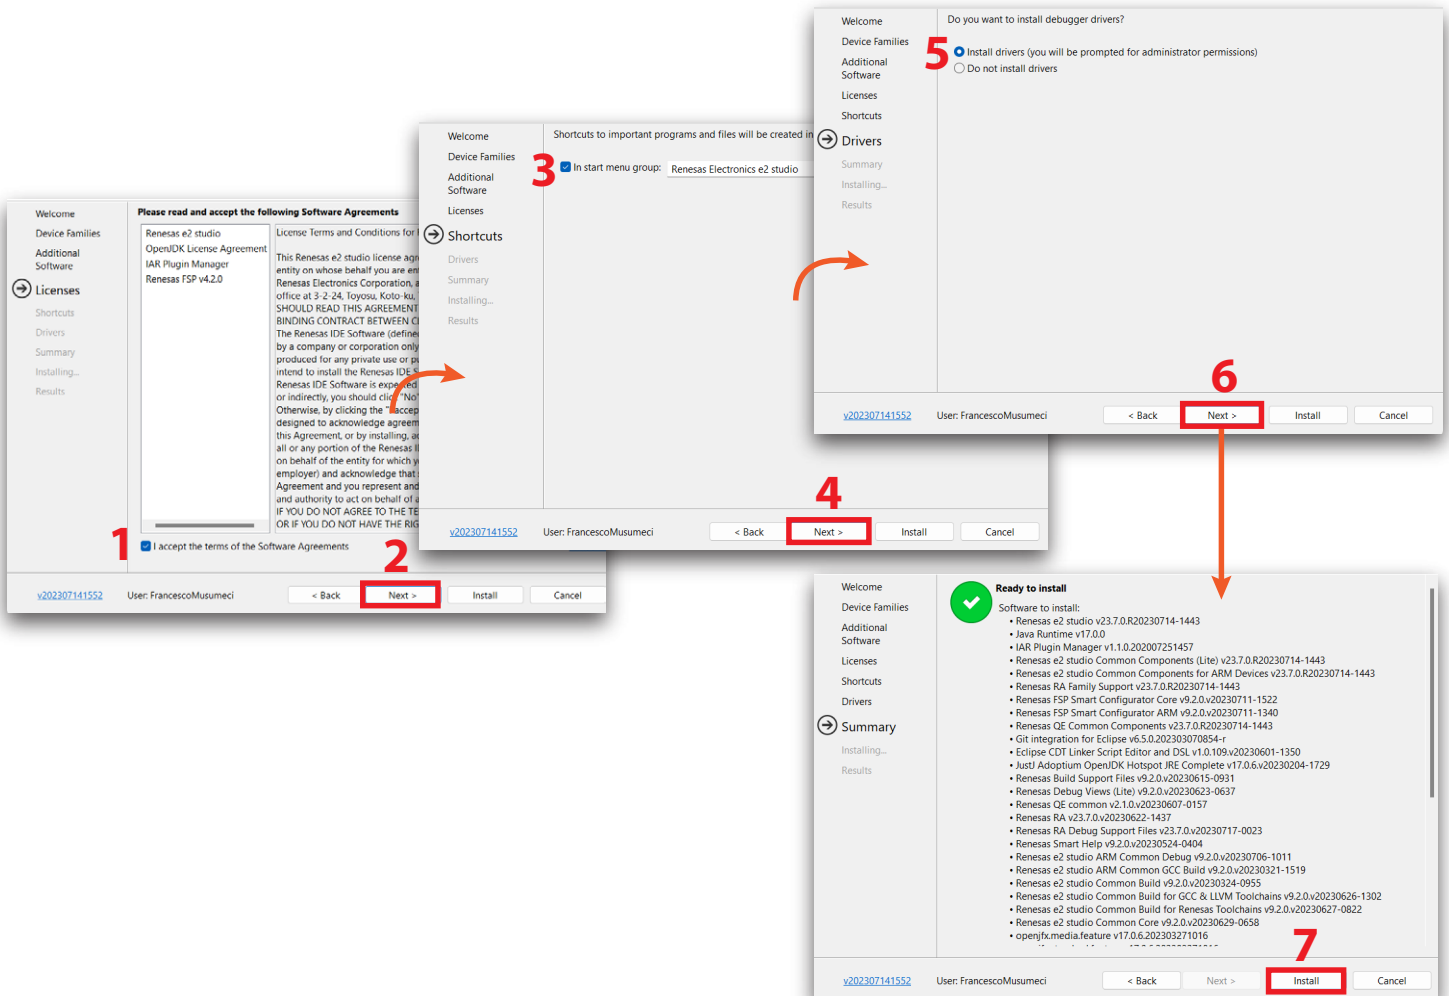

Figure 9: e² studio software setup windows
6. Follow the steps in figure 9 and finally click on install